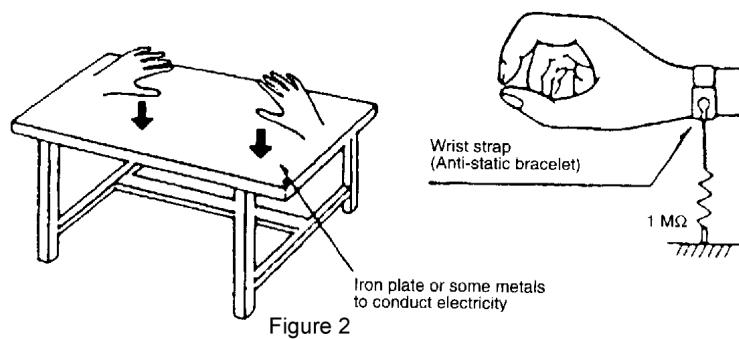

Figure 2
1. Human body grounding (Figure 2)
2. Work table grounding (Figure 2)